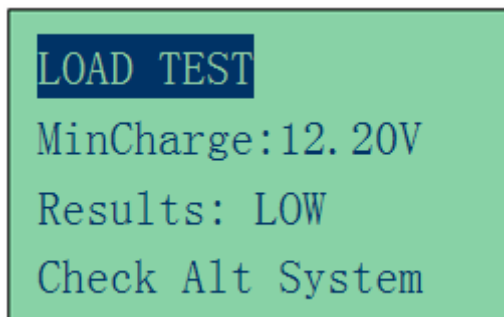

Figure 51
9. If either minimum or maximum charging volts are not within the voltage range limits then it will display one of the screen as below (Figures 51& 52) and it will prompt you to check the alternator system for the fault.